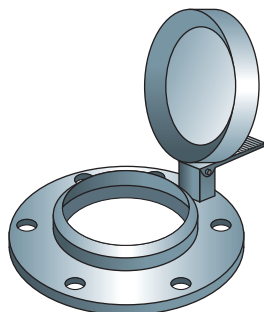

Figure 15.9 Gauge hatch.
- **Gauge hatch**—an opening on the roof of a tank that is used to check tank levels and obtain samples of the tank contents. Figure 15.9 shows an example of a gauge hatch.